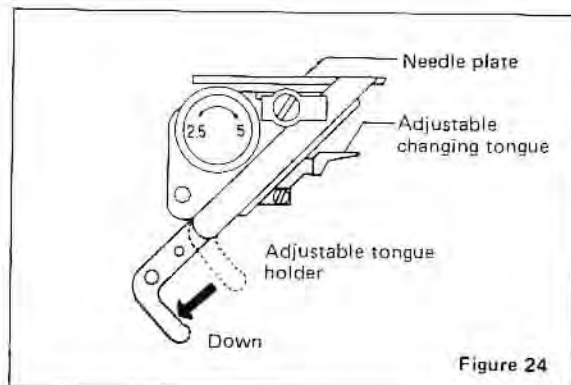

Figure 24
8. Pull down on the adjustable tongue holder until it snaps into position at lowest point (Figure 24).